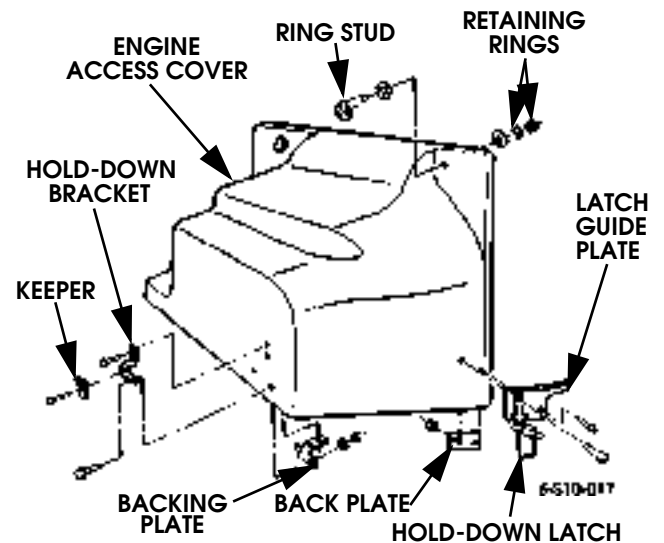

Figure 10-29: Engine Access Cover Fastener Positioning
3. Remove retaining rings, washers, and ring studs from access cover (Figure 10-29).
1. Secure hold-down brackets and backing plates to access cover with rivets, screws, washers, and nuts (Figure 10-29).
1. Position engine access cover and fasten ring studs (Figure 10-29).